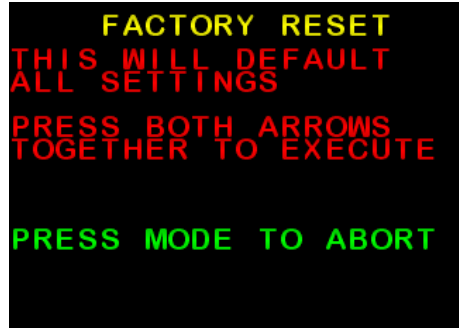

Figure 34: Factory Default (Factory Reset) warning screen
- From the Install Options 1 menu, use ► to scroll down to FACTORY DEFAULT, press AUTO button to enter (Figure 34)